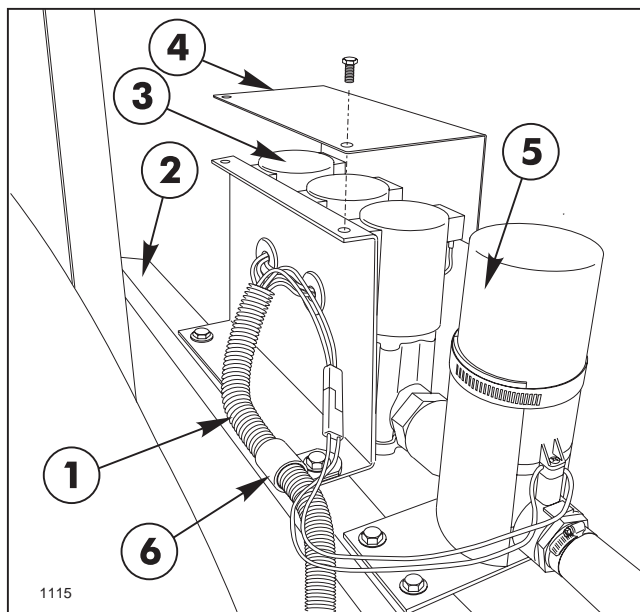

FIG. 18
1. Locate the Extension Cable and connect it to the Fowmeter Cable. Route the cable up, along the Boom Frame Upright Angle, to make connections to the Motorized Control Valve and the Solenoid Valves. See FIG. 18.
2. Connect the rubber plug to Motorized Control Valve. Feed the other wires through the two Grommets in the Solenoid Mounting Bracket. Connect the black wire on left solenoid, brown on middle solenoid, blue on right solenoid, and a white jumper on all three solenoids (FIG. 18).
3. Secure cable to the Boom Frame and the vehicle frame with R-clamp and tie straps provided (FIG. 18).
4. Install Solenoid Valve Shield to top of Solenoid Mounting Bracket and secure with (2) 1/4" x 3/8" hex flange hd. screws (FIG. 18).